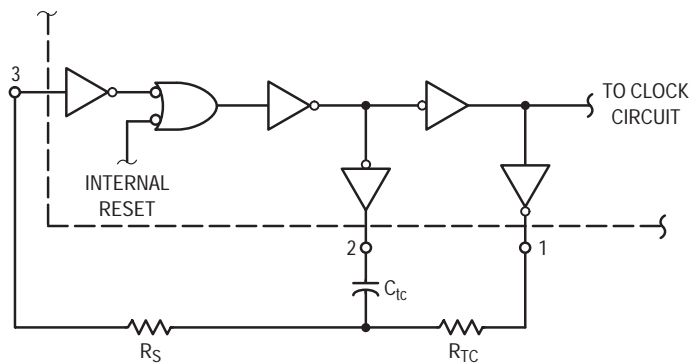

Figure 3. Oscillator Circuit Using RC Configuration
6. When using the on chip oscillator the total supply current (in μ Adc) becomes: $I_T = I_D + 2 C_{1c} V_{DD} f \times 10^{-3}$ where I_D is in μ A, C_{1c} is in pF, V_{DD} in Volts DC, and f in kHz. (see Fig. 3) Dissipation during power-on with automatic reset enabled is typically 50 μ A @ $V_{DD} = 10$ Vdc.
The RC oscillator as shown in Figure 3 will oscillate with a frequency determined by the external RC network i.e.,